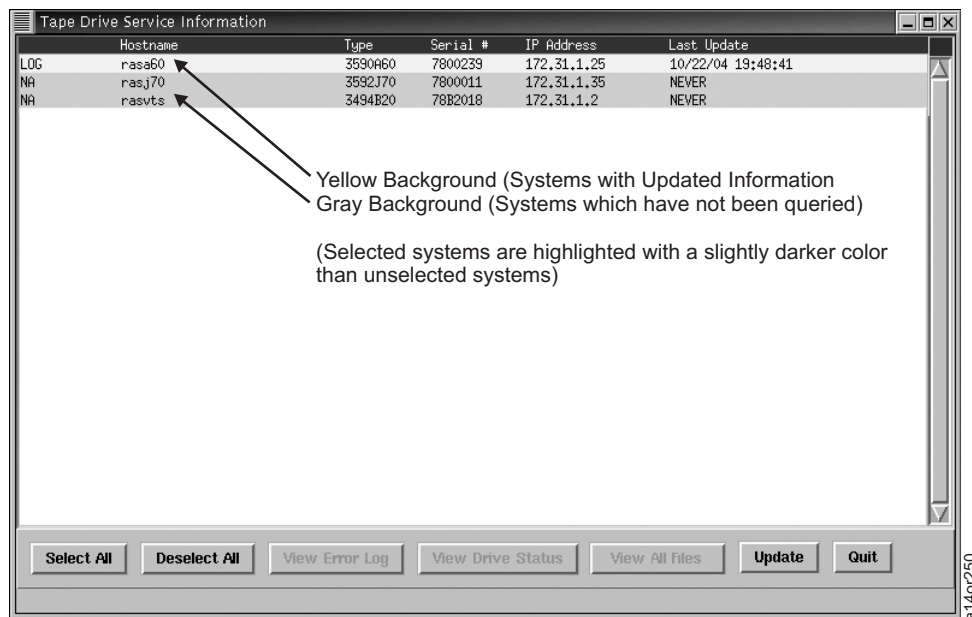

Figure 160. Tape Drive Service Information – Main Screen
1. See Figure 160. After you complete the System Console configuration, the tool to update and review tape drive service information for attached systems is automatically enabled. Right click from anywhere in the Desktop to view the Main Menu shown in Figure 63 on page 52.
3. The Figure 160 lists all systems attached to the System Console which might have tape drive information available. The Main Screen shows a summary of the update status of the systems attached to the System Console as of the DATE and TIME INDICATED in the right column. The systems listed are highlighted according to the following color scheme:
- Each report may be viewed by selecting one of the systems listed on the Main Screen (Figure 160 on page 131), then clicking **View Error Log** or **View Drive Status**. Systems may be selected by pointing to the system list entry, and clicking the left mouse button once. (Clicking the entry a second time deselects the system.)
- From the Main Screen in Figure 160 on page 131, select **Quit** to quit.